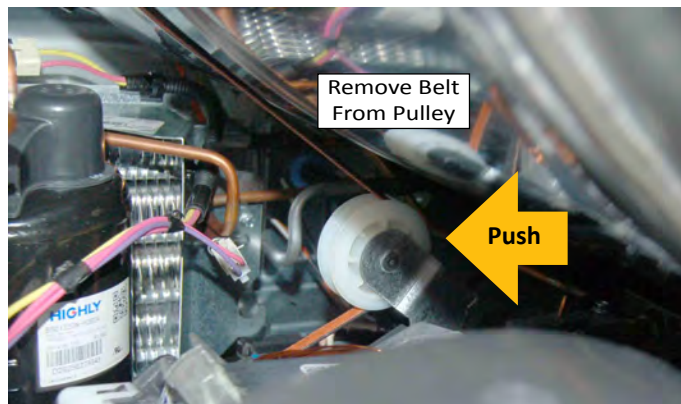

Figure 8
12. Reach under the drum, (raise it as far as it will go), and push the idler pulley arm, on the back of the drive motor, to the left to relieve the tension on the belt, then remove the belt from the pulley. See Figure 8.